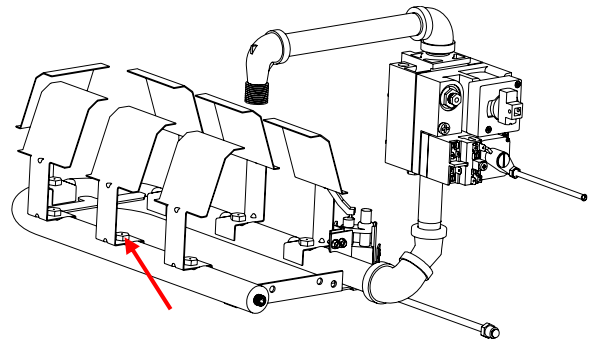

Figure 6
3. Using a 1/2 inch box end wrench or socket and ratchet, remove the 2 brass orifices that hold the target bracket to the burner manifold. See Figure 6.